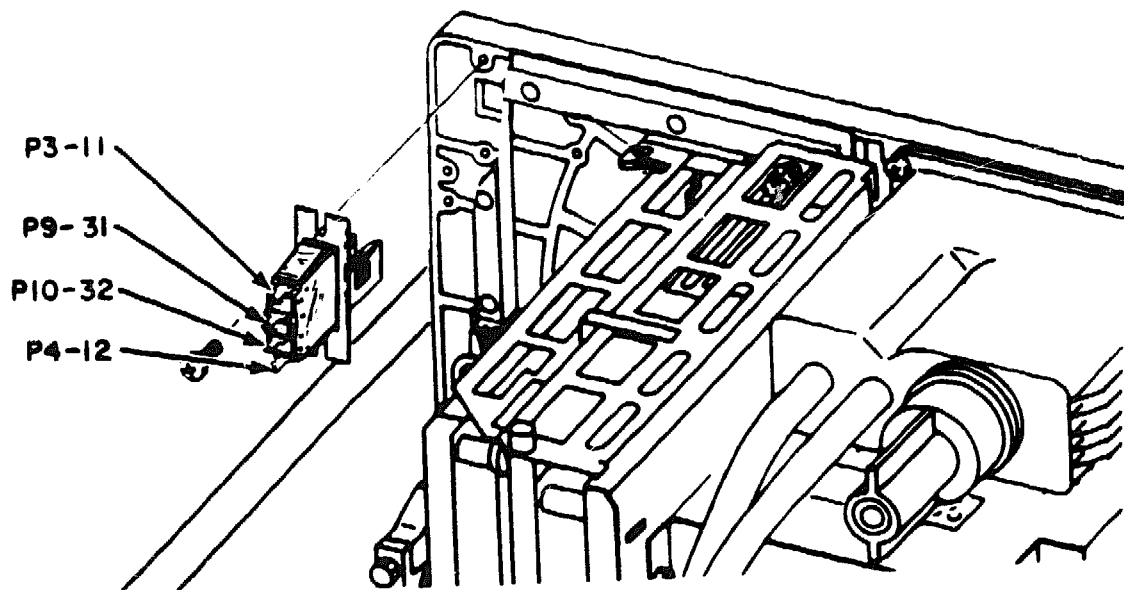

Figure 5-5. TOP COVER INTERLOCK SWITCH (MAINTENANCE VIEW)
1. Place the tape deck in the maintenance position. Remove the four labeled slip-on connectors from the interlock switch connectors. (If any wires are not labeled, identify and mark each wire for reassembly.) See Figure 5-5.
4. Attach the slip-on connectors to the appropriate studs of the interlock switch. Refer to Figure 5-5 for wire and connector positions. Return the tape deck to the operating position.